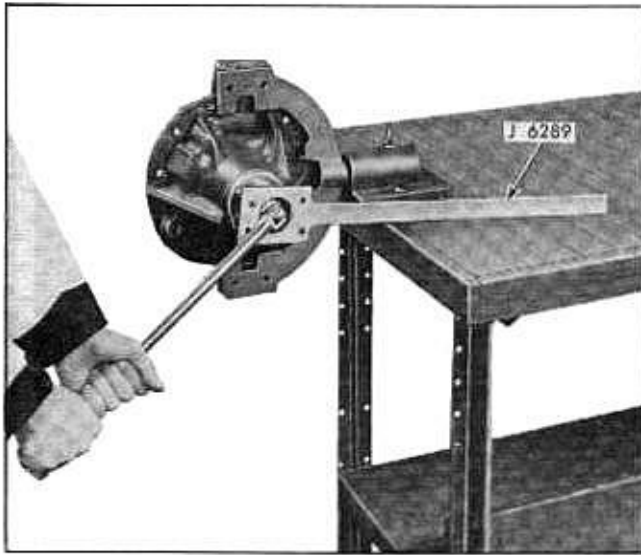

Fig. 4-38 Tightening Drive Pinion Nut
26. Position assembly as shown in Fig. 4-38 and tighten nut only enough to remove most of end play, using Flange Holding Tool J-6289 and heavy duty socket.